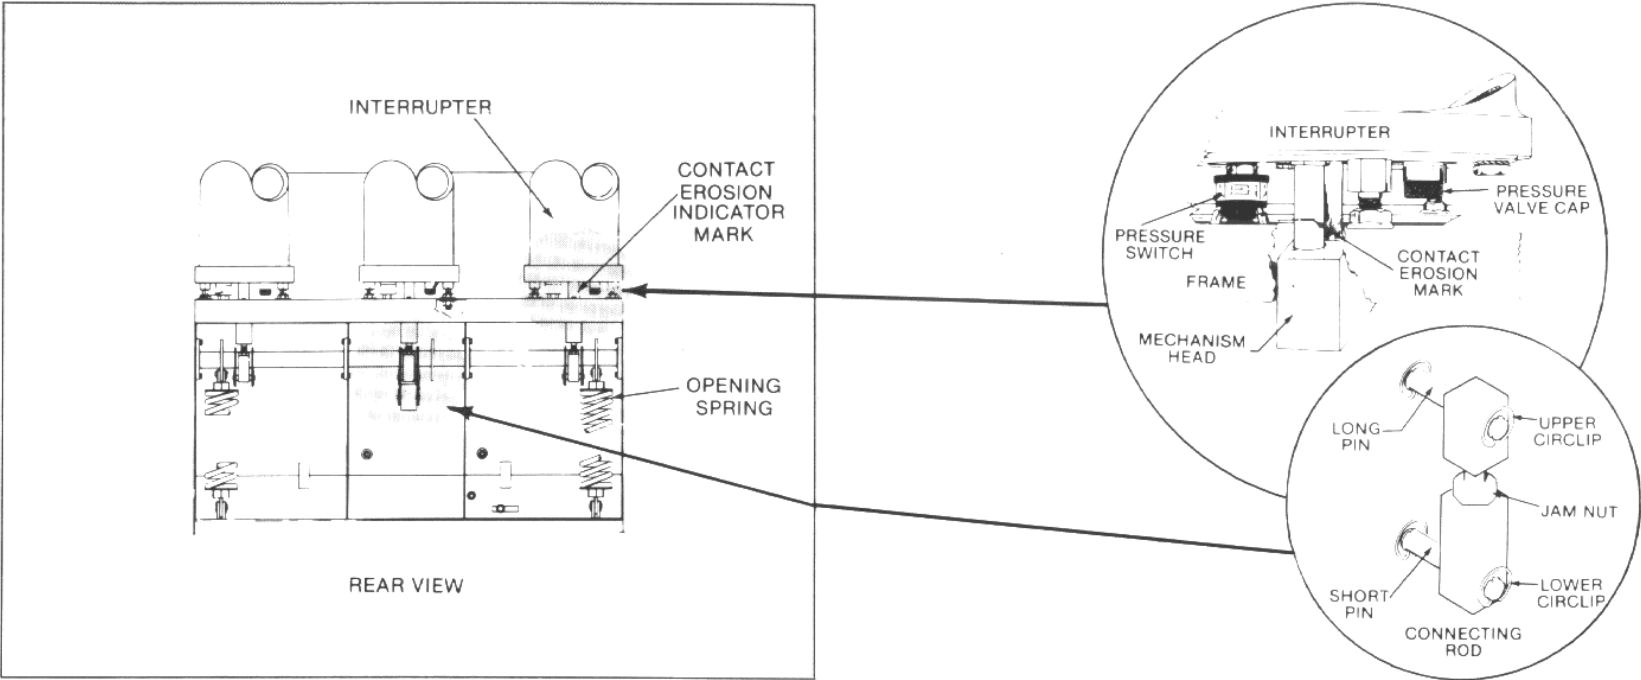

Figure 6
Gas pressure can be tested at a pressure valve located at the bottom of the bottle (Figure 6). It is recommended that this practice be kept to a minimum (5 year intervals) because the gas lost during a pressure check will be greater than that expected over several years normal service.
NOTE: The upper and lower pins of the connecting rod are different lengths. The shorter pin is used at the lower position as shown in Figure 6.
3. Identify the location of the connecting rod in Figures 6 and 7. See Figure 6 for connecting rod details. This device is to be removed as follows.